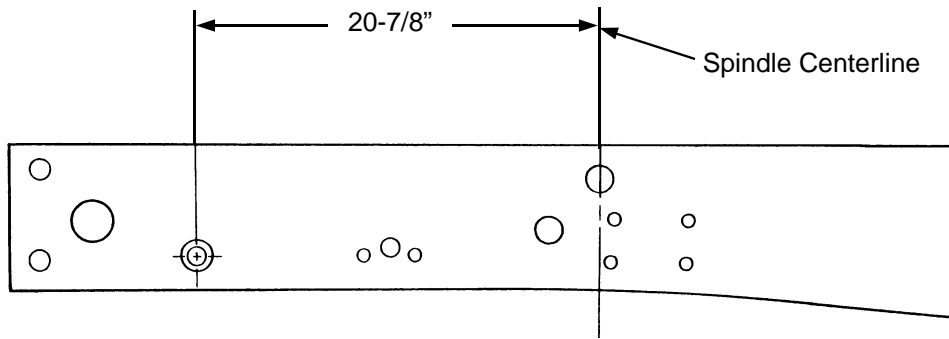

Figure 1
3. Measure back 20-7/8" from the center of the front spring shackle hole in the frame and scribe a line around the rails. See Figure 1. This will be the spindle center line, where the front wheels will be. As a final check, just to be safe, you could temporarily place a fender on the frame and stand a wheel in place in the opening, centering the wheel in the fender opening. Slide a bar or broom handle through the wheel center hole. It should fall on your correct axle centerline. If the crossmember is installed in the wrong place now, it can not be compensated for later. REMEMBER THE BASIC RULE-MEASURE TWICE, WELD ONE.